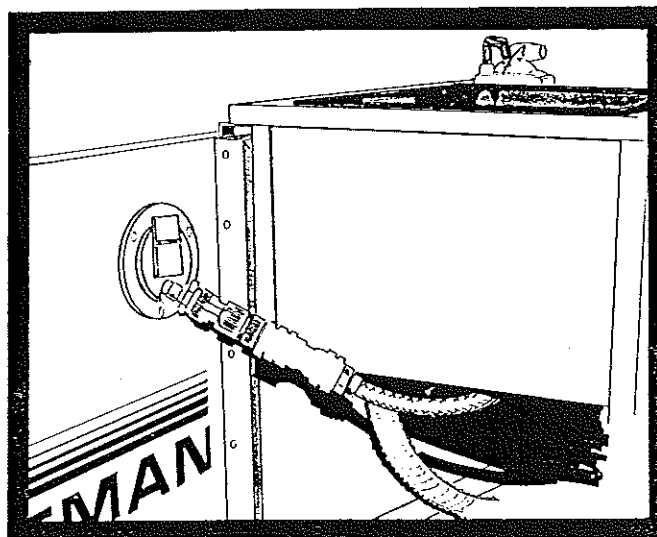

FIGURE 28
46. Once the utility lines are disconnected from inside the camper, the sink module can be relocated outside by attaching it to the open latched access door using the support brackets located at the rear of the module. Connect the water line by using the quick disconnect high pressure line provided at the cable hatch on the right rear body panel or the low pressure line (to portable storage tank). See Figure 28.